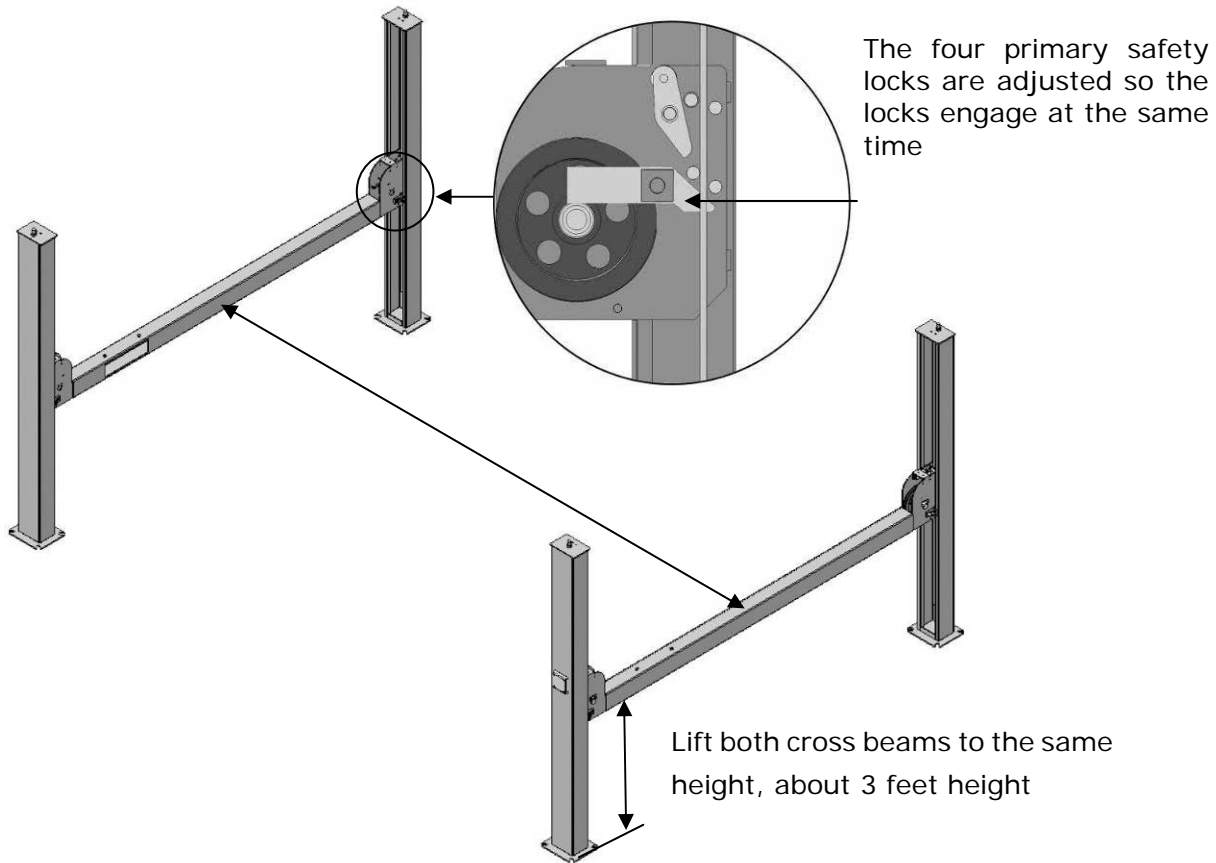

Fig. 17
G. Install the Cross Beams at the same height (See Fig. 17).